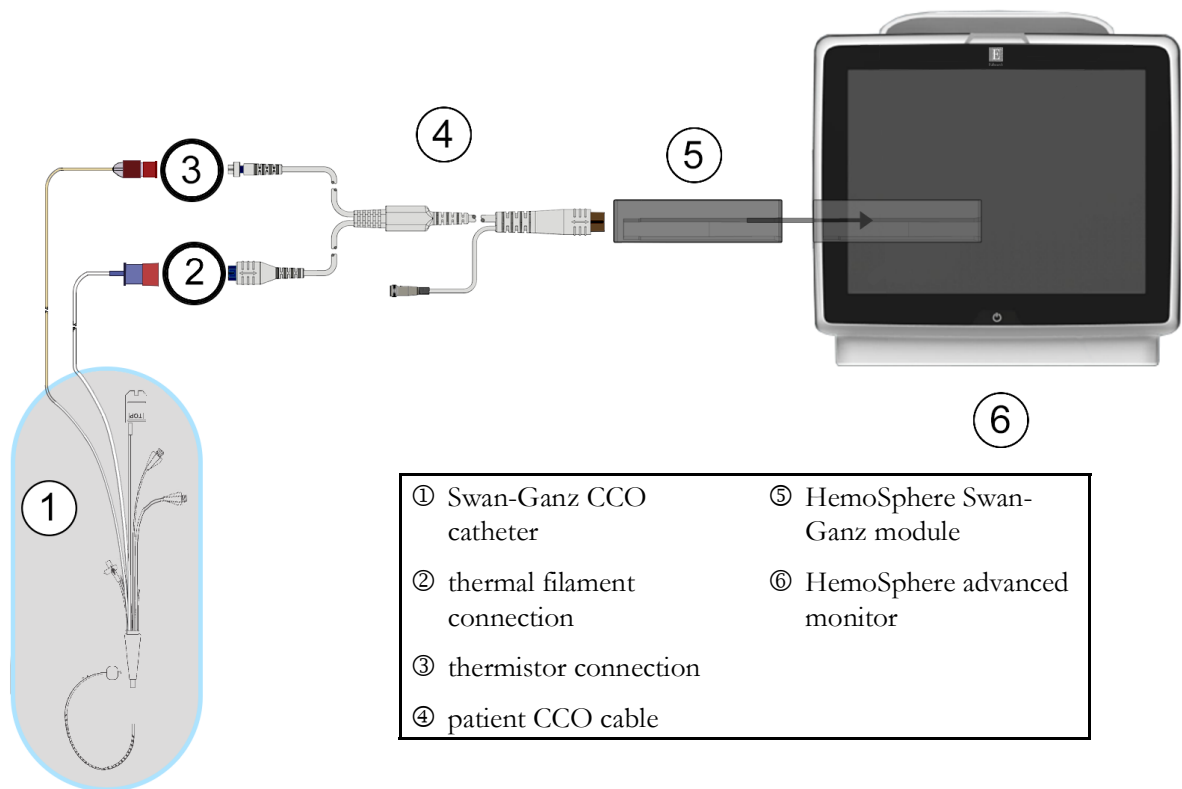

Figure 9-4 CO connection overview
- 2 Attach the catheter end of the patient cable to the thermistor and thermal filament connectors on the Swan-Ganz CCO catheter. These connections are emphasized as numbers ② and ③ in figure 9-4 on page 152.